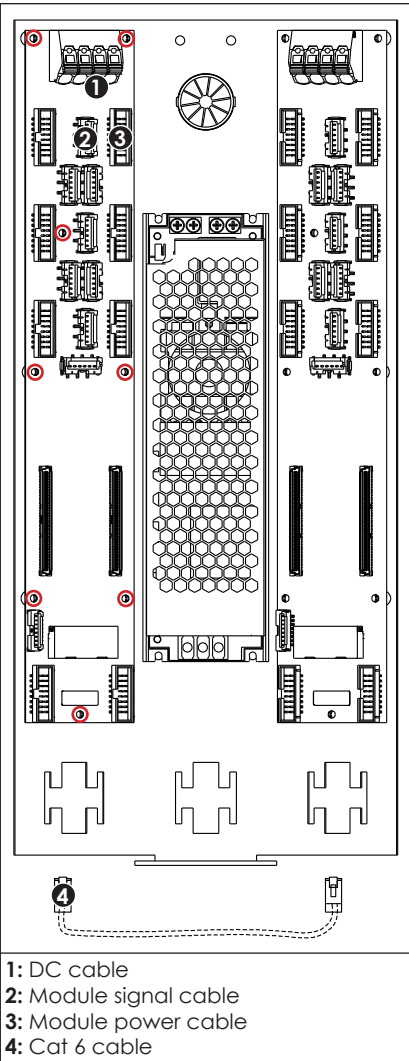
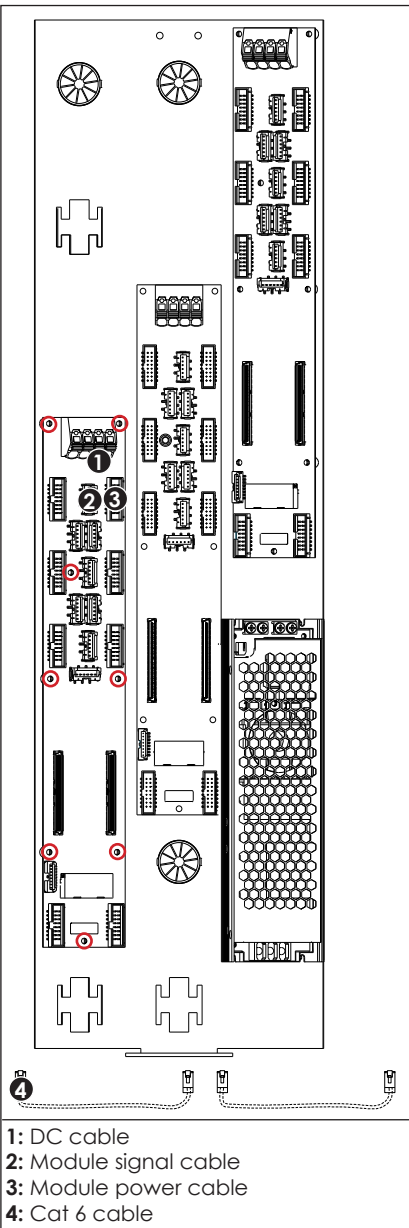

Figure 10: 2-High Component Layout
Figure 11: 3-High Component Layout
- 2. Disconnect the ribbon and power cables from the hub board. Take note of the locations on the hub board prior to disconnecting the cables. Refer to **Figure 10** and **Figure 11**.
- 3. Push in the spring-loaded terminal block to disconnect the DC power cables from the hub board. Refer to **Figure 10** and **Figure 11**.
- 4. Disconnect the Cat 6 cables from the RJ45 jacks. Refer to **Figure 10** and **Figure 11**.
- 5. Use a #2 Phillips screwdriver to remove the eight screws securing the hub board to the component plate and then remove the hub board from the plate. Refer to **Figure 10** and **Figure 11**.